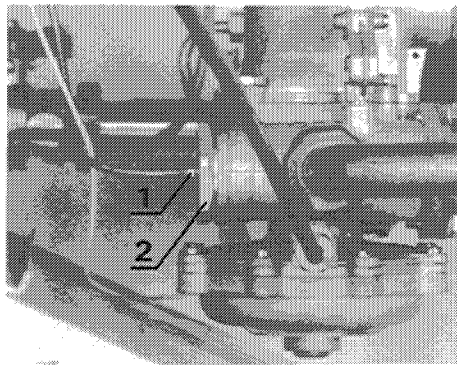

Fig. 23
- c) Remove thermocouple (1, fig. 23) from thermo-electric valve at rear of gas section using 10 mm spanner.
- a) Remove thermocouple nut (1, fig. 23) using 10 mm spanner.
- b) Unscrew valve (2, fig. 23) from gas section using a 35 mm or adjustable spanner.
- b) Remove thermocouple nut (1, fig. 23) from thermocouple valve at the rear of gas section.
- f) Remove thermocouple nut (1, fig. 23) from valve at rear of gas section using 10 mm spanner.